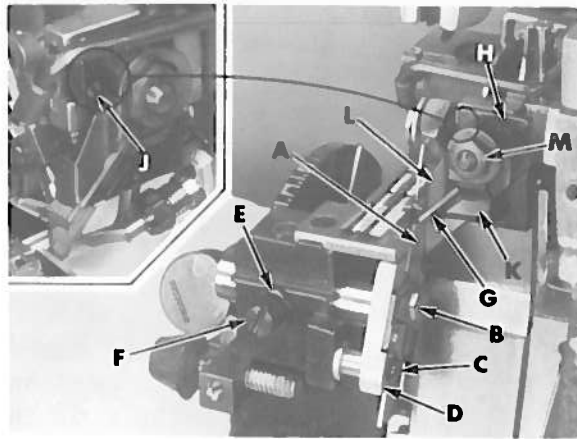

Fig. 15
Cutting edge of knife (A, Fig. 15) must be even and parallel with top surface of throat plate. Examine sewn sample for specified seam width and appearance. If adjustment is required, loosen screw (B) and adjust knife (A) up or down until its cutting edge is flush with top of throat plate, then tighten screw (B).
At lowest position the front tip of upper knife cutting edge must extend 1/64 - 1/32 inch (.4 - .8mm) below cutting edge of lower knife. If adjustment is required, rotate handwheel to position upper knife driving arm at lowest position; with upper knife (G, Fig. 15) at lowest position of travel and while holding upper knife firmly against lower knife, adjust knife holder (H) left to right, to position front tip of upper knife cutting edge 1/64 - 1/32 inch (.4 - .8mm) below cutting edge of lower knife, then tighten screw (J).